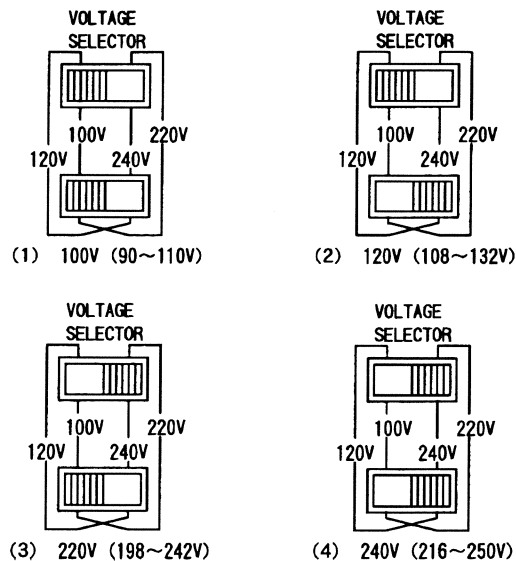

Fig. 3.2 Power supply voltage setting method
3.1.2 Rear Panel Description (Refer to Fig. 3.2 and 3.14)
⑰ VOLTAGE SELECTOR
This is the power supply voltage selector. Set it appropriately according to the current of the voltage that is used. Refer to Fig. 3.2 for the switch setting method.